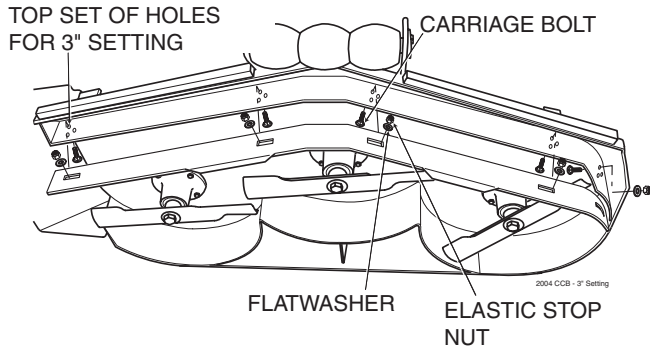

Figure 15. 3" Custom-Cut Baffle Position
- A. 3" Position - baffle is installed using the top set of holes on the front baffle welded inside the cutter deck. (See Figure 15). The Advantage cutter deck will deliver the best quality-of-cut in very tall, wiry, tough to cut grass.
(See Figures 15 through 17 for position).
4. Reinstall the mounting hardware as shown. (See Figures 15 through 17). Torque hardware to 39ft.lbs.